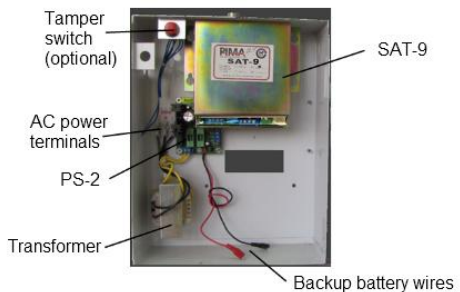

Figure 2. The TD-900
10. Test the communication between the SAT-9 and the monitoring station: perform a manual transmission test by pressing the test button on the SAT-9 PCB. See Figure 2 on page 3.
11. Test the communication between the SAT-9 and the monitoring station: perform a manual transmission test by pressing the test button on the SAT-9 PCB. See Figure 2 on page 3. If verify fails, check that the Molex connector is connected as drawn on the transmitter label.